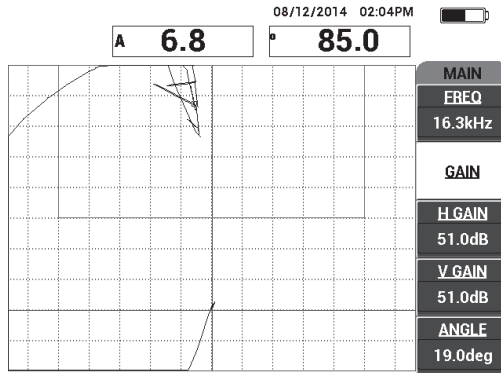

Figure 6-67 The GAIN adjustment to the air signal dot
- If necessary, press the GAIN key (**dB**) and adjust the **GAIN** to keep the air signal dot on the screen (see Figure 6-67 on page 180).